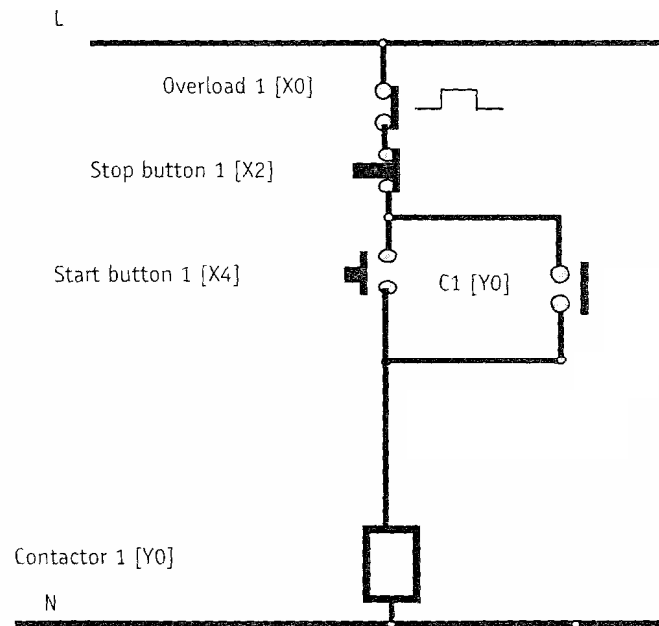

FIGURE 9.1: DIRECT-ON-LINE STARTER
9.9 Draw the ladder logic diagram of the circuit in FIGURE 9.1.